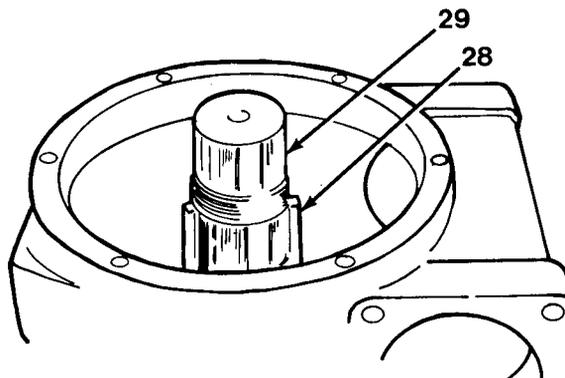

Figure 15-9
17. Remove worm gear (27) from output shaft (29).
18. Remove two keys (28) from output shaft (29, Figure 15-9).